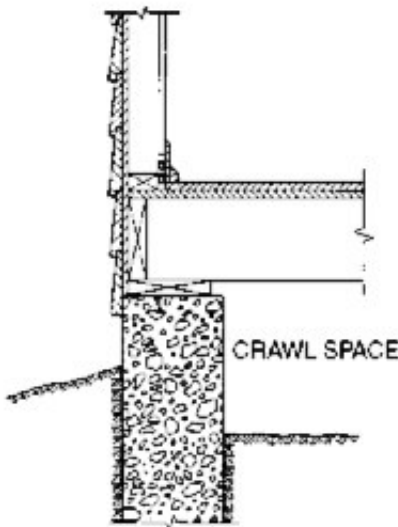

Figure 5. Construction showing crawl space.
- If the house is of pier and beam construction, thoroughly inspect the area between the floor and the underlying soil (crawl space) (Fig. 5). Examine the inside of the beams, chimney bases, hearths or piers for shelter tubes. Crawl-space construction should have a minimum of 18-inch clearance between floor joists and the underlying soil, and a least 12 inches between floor beams and the soil.